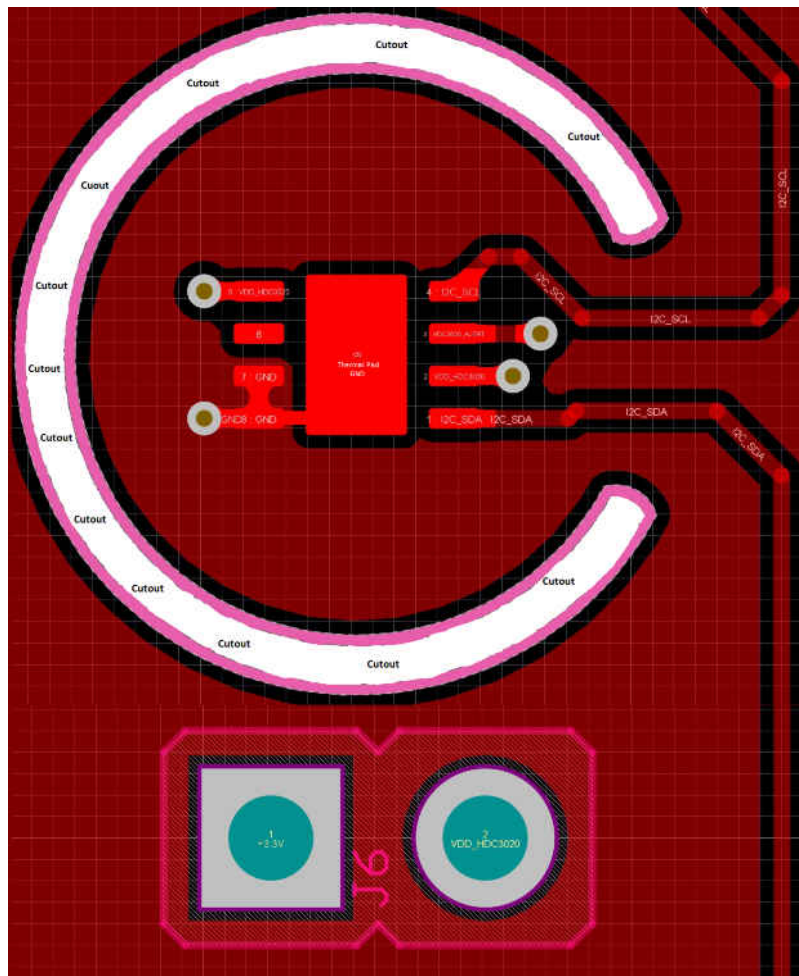

Figure 10-1. HDC302x PCB Layout Example
and the setup of the sensing system. Since the HDC302x measures relative humidity and temperature in its immediate environment, it is critical that the local conditions at the sensor match the ambient environment. Use one or more openings in the physical cover of the thermostat to obtain a good airflow even in static conditions. Refer to the layout (Figure 10-1) for a PCB layout which minimizes the thermal mass of the PCB in the region of the HDC302x, which can improve measurement response time and accuracy.
1. Isolate all heat sources from the HDC302x. This means positioning the HDC302x away from power intensive board components such as a battery, display, or microcontroller. As illustrated in Figure 10-1, ideally the only onboard component close to the HDC302x is the supply bypass capacitor.
- The diameter of the cutout around the part in this case is approximately 6 mm. The important details are to implement a separation of thermal planes while allowing for power, ground and data lines and place the part on the board, while still meeting mechanical assembly requirements. In addition Figure 10-1 other representations of cutouts for thermal relief can be found in SNAA297 section 2.3.